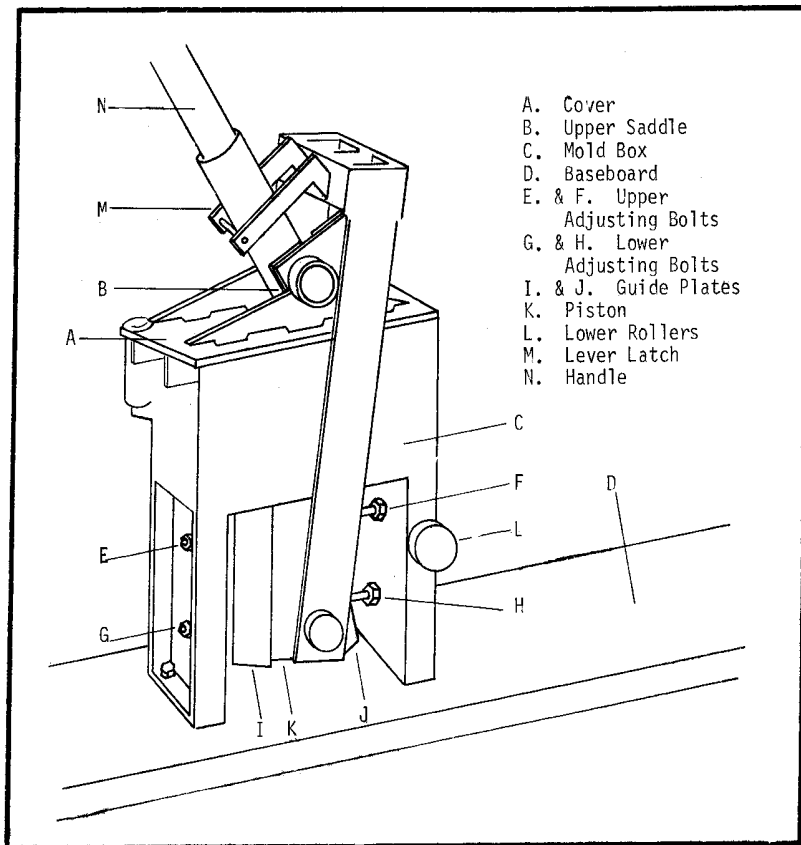

Fig. 1 - The CINVA-Rain Block Press and Its Parts
43. Mounting the Machine The CINVA-Ram Press (see Fig. 1) should
Move the lower adjusting bolts (G and H) sideways toward the high side of the break (see Fig. 1). If more adjustment is needed, move the upper adjusting bolts (E and F) toward the low side of the break. This can sometimes be done simply by hammering the bolt sideways (with a piece of wood, so that the threads will not be damaged) rather than by loosening and tightening the nuts. After the bolts are hammered over, tighten the nuts.
the guide plate opposite the end where the break occurs inward by turning lower adjusting bolt G or H, depending on the guide plate to be moved (See Fig. 1). NOTE: Moving one end of a guide plate in one direction forces the other end of the same plate in the opposite direction. If this loosens the piston much at either the top or the bottom of the guide plate, the other end of the plate must be moved inward. The free play should be corrected because it will cause the piston to crack the blocks by compressing them in one direction in the compression cycle (with the upper saddle as the pivot point) and in another direction in the ejection cycle (with the lower rollers as the pivot point). Also, the guide plates must be tight enough against the piston to keep it from jerking and jumping upward at the end of the ejection cycle.